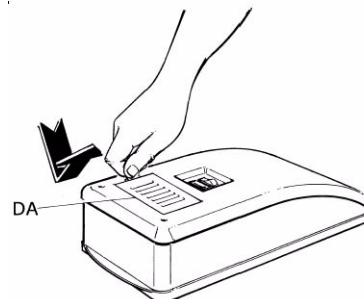

FIGURE 25
2. Insert a quarter in the slot on the small panel on the top of the cover (DA) and rotate the quarter to pop the panel open to access the light bulb in the merchandising cover (see Figure 25).